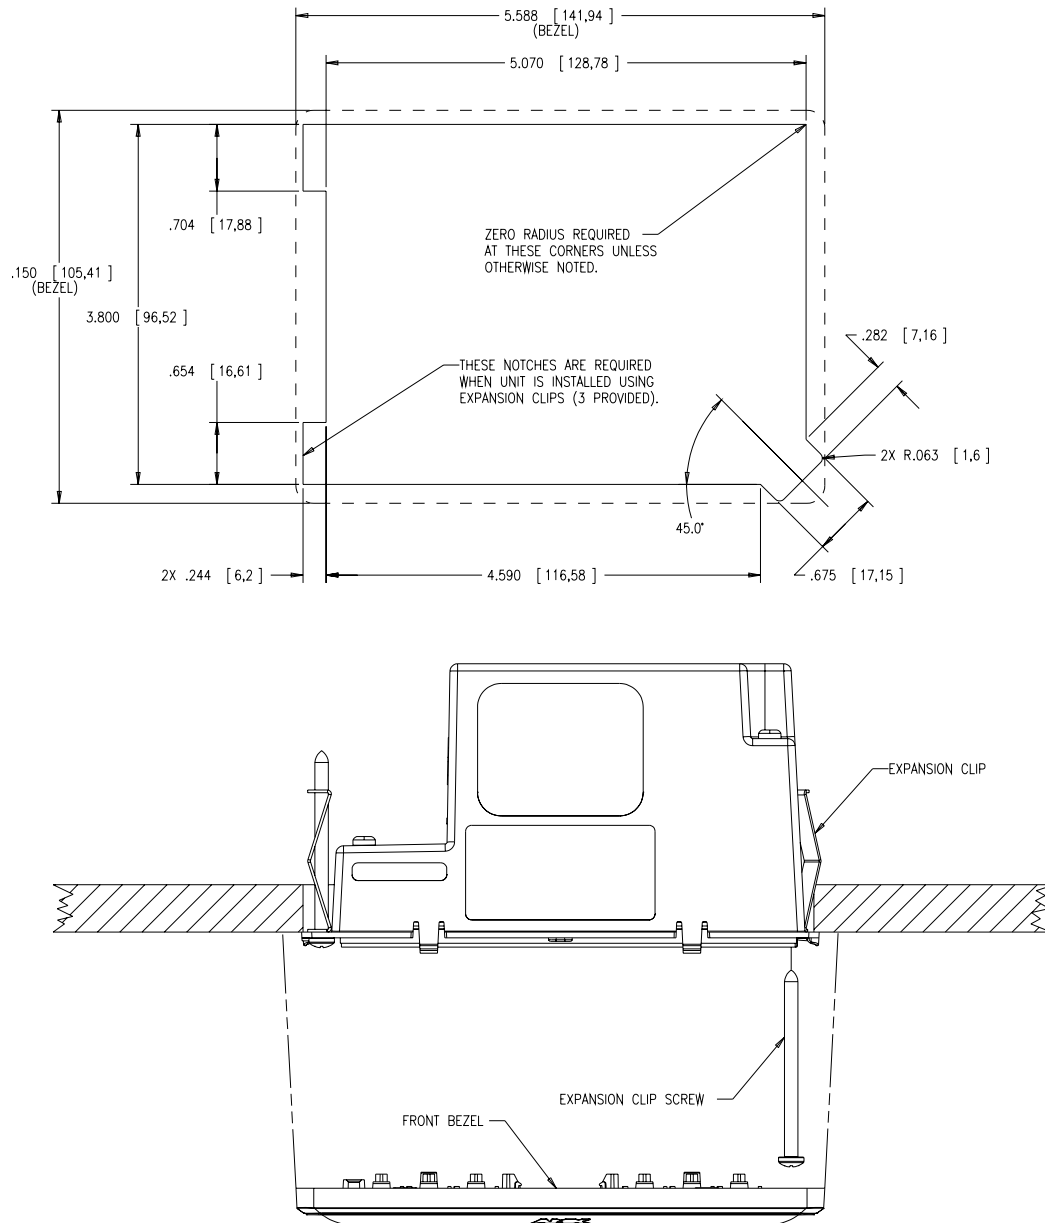

FIG. 18 NXD-CV5 Wall Mount panel dimensions using expansion clips
- Refer to **SP-2261-02** for detailed installation dimensions (reproduced in FIG. 18).
- Trace the required cutout along the drywall. Refer to the dimensions in FIG. 18 for more information.